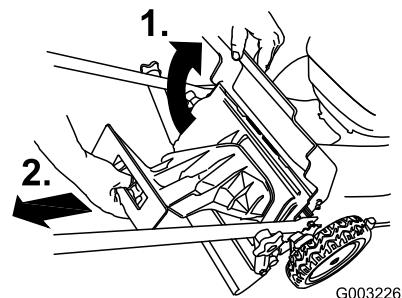

Figure 34
1. Raise and hold up the rear door (Figure 34).
2. Remove the rear discharge plug (Figure 34).